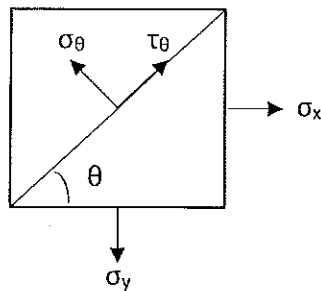

Fig.Q5(a)
- a) Derive an expression for the stresses (σ_θ , τ_θ) on an oblique plane of a rectangular body, when the body is subjected to tensile stresses in x and y directions as shown in Fig.Q5(a).